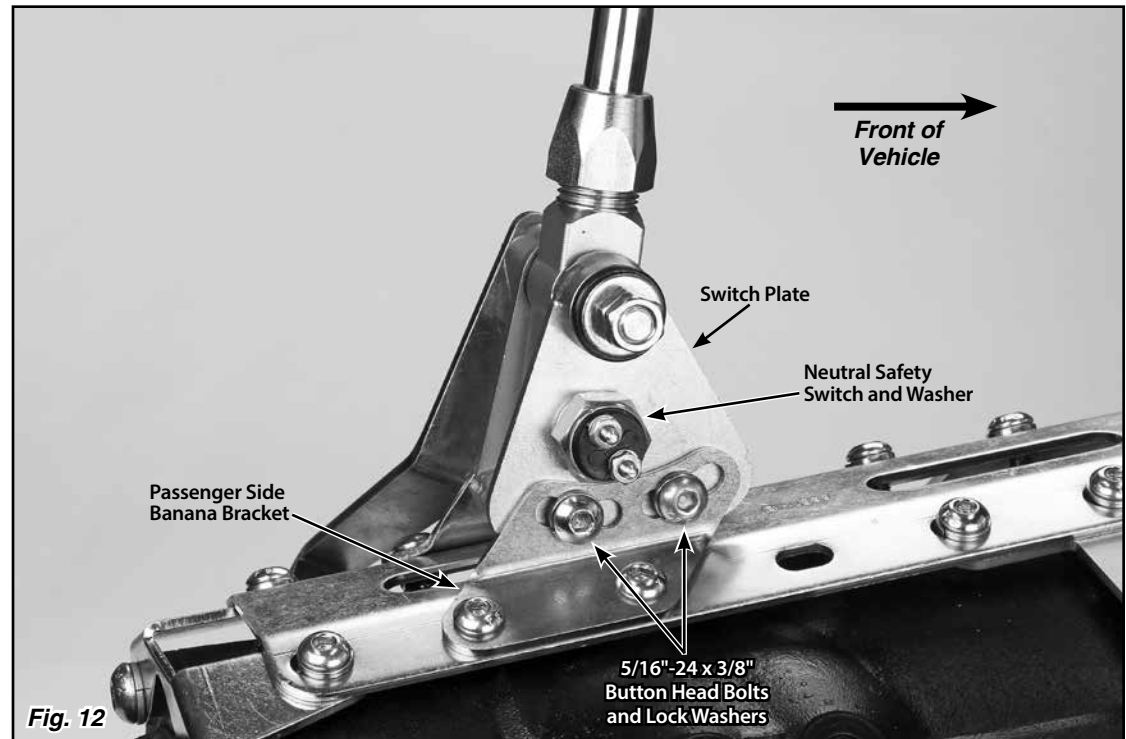

Fig. 12
Step 18: Remove the neutral safety switch and washer (**Fig. 12**) from the passenger side of the shifter using a 7/8" wrench or socket.
Step 19: Loosen, but do not remove, the two 5/16"-24 x 3/8" button head bolts and lock washers that connect the passenger side banana bracket to the switch plate (the bolts are in curved, slotted holes). **Fig. 12**